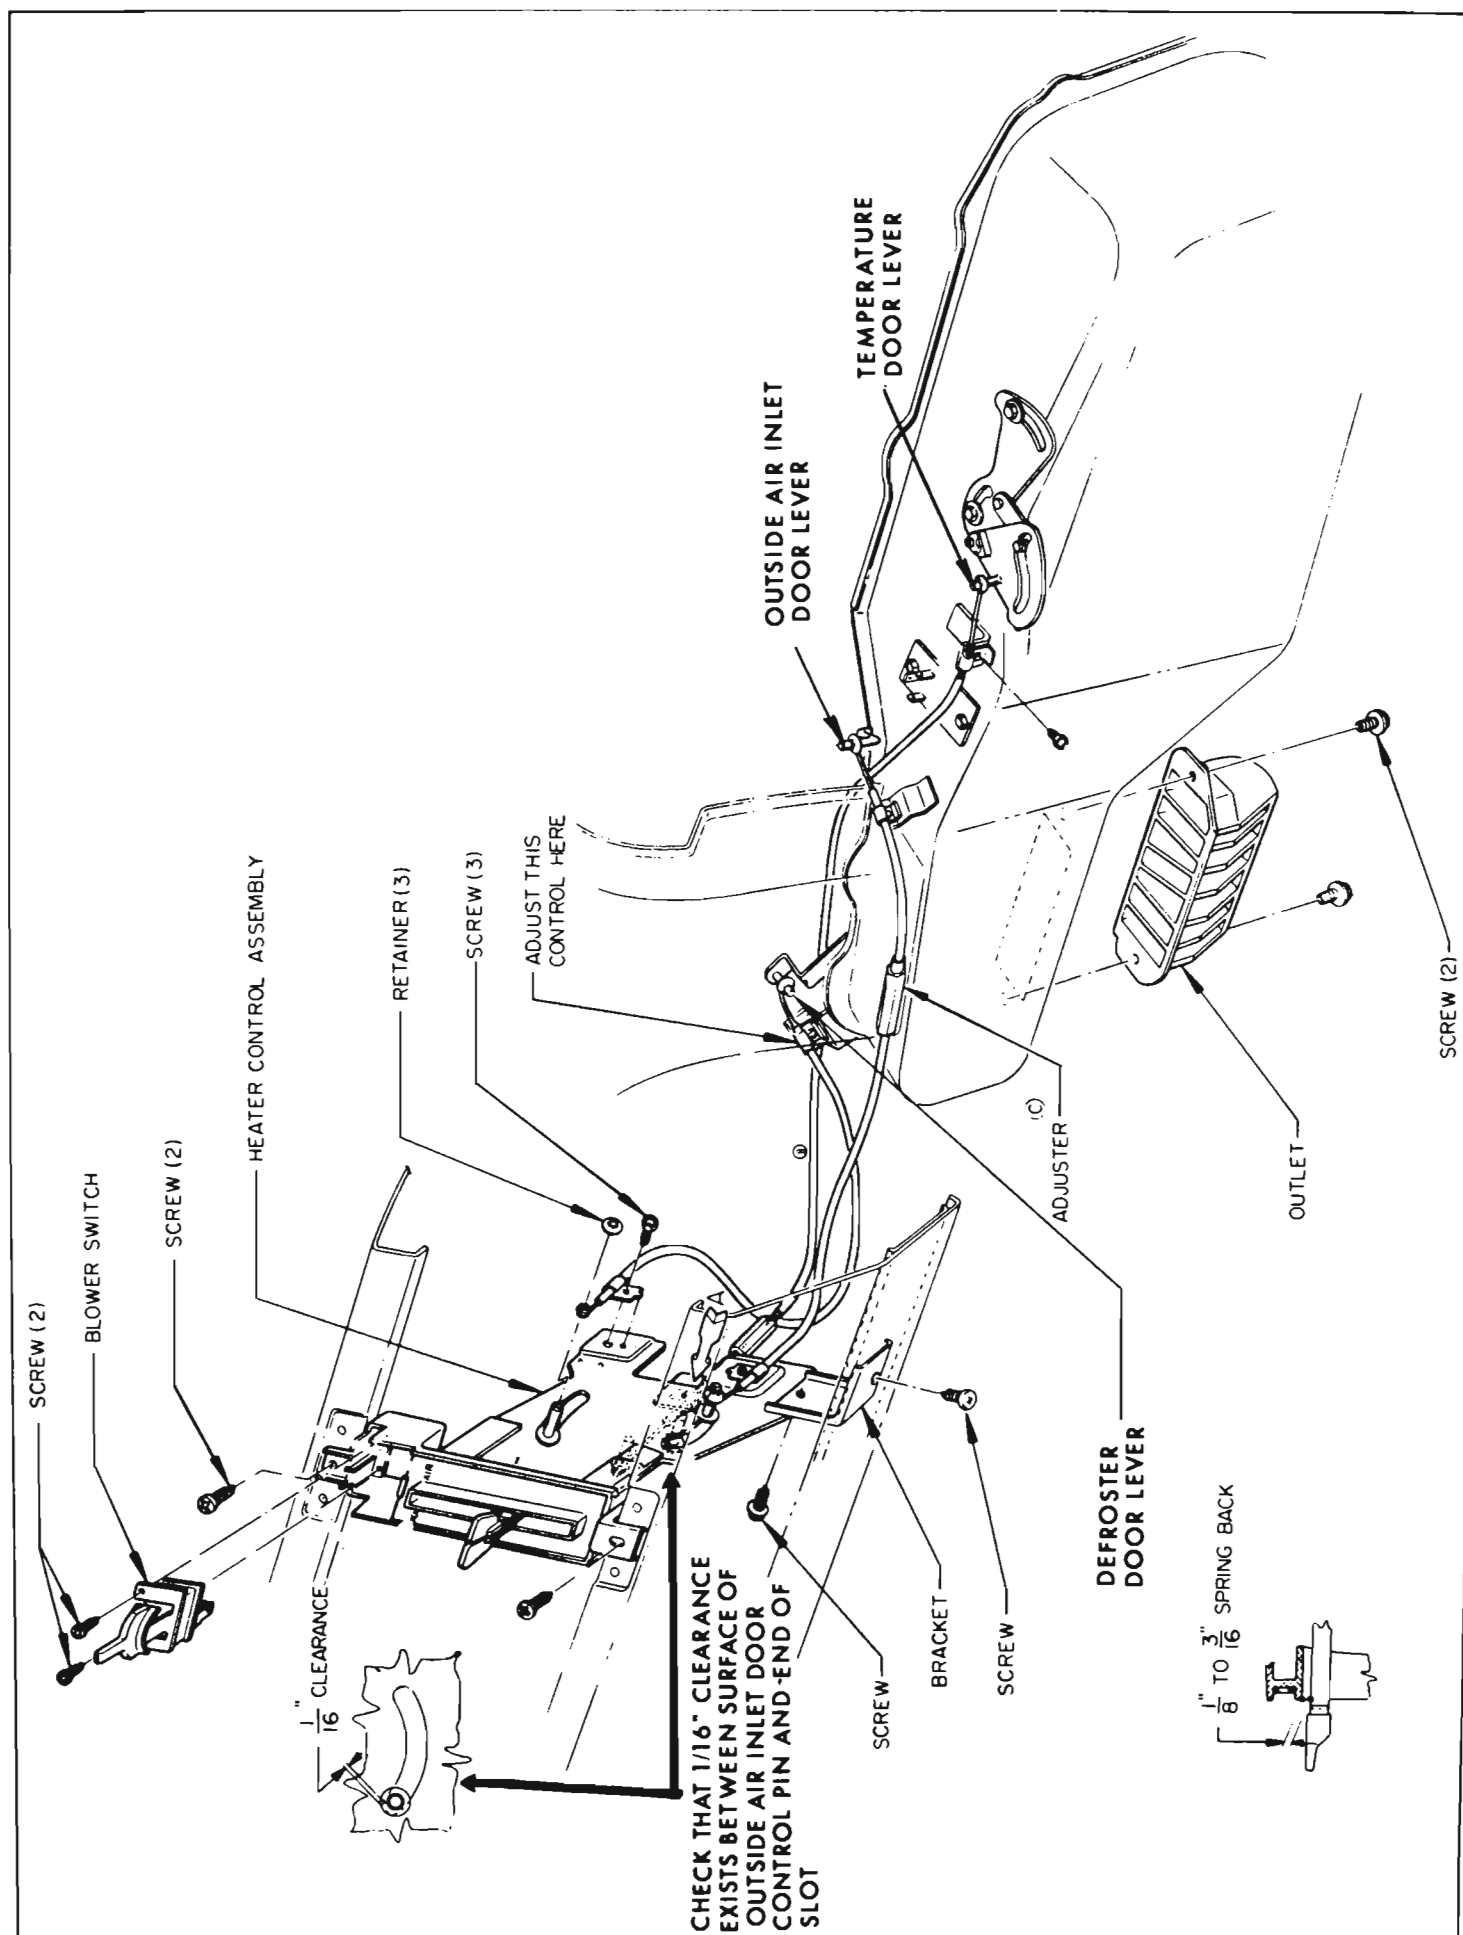

Figure 11-16—Heater Installation - 43000 and 44000 Series
**NOTE:** After adjustment is completed, check that 1/16 inch clearance exists between outside air inlet door control pin and end of slot (see Figure 11-16) when AIR control lever is in off position.